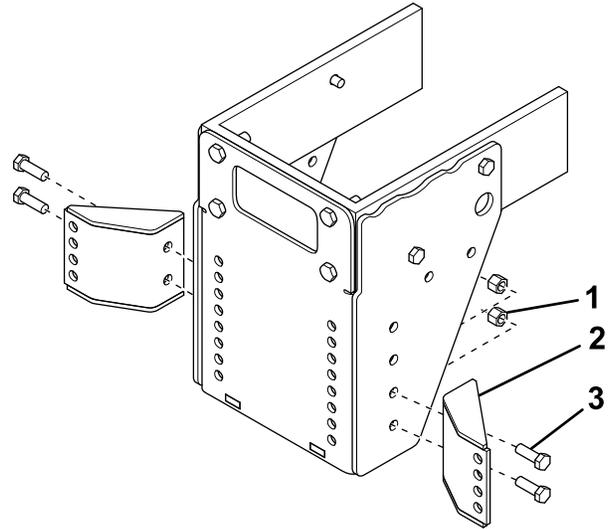

Figure 4
- Secure a side gusset to the left sideplate using 2 bolts (1/2 x 1-1/2 inches) and nuts (Figure 4).
- Secure the remaining side gusset to the right sideplate using 2 bolts (1/2 x 1-1/2 inches) and nuts (Figure 4).